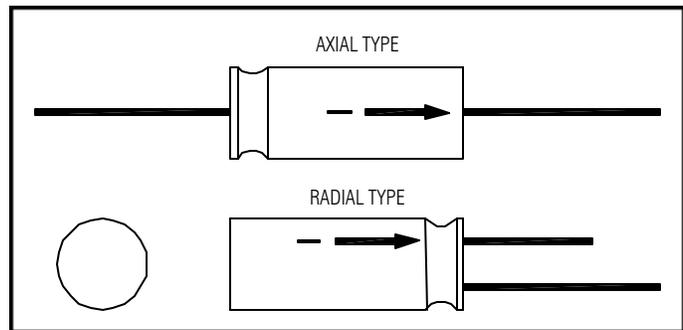

Figure 21 Two types of electrolytic capacitors. Note the polarity markings showing the negative lead.
- ___ 9. Locate and install C12, the 22FFD 25v (or higher voltage) axial type electrolytic capacitor, observing proper polarity. See Figure 21. The capacitor will have a heavy line or band to identify the **negative** lead while the PC board designator will show the location of the positive lead. The body should touch the PC board.